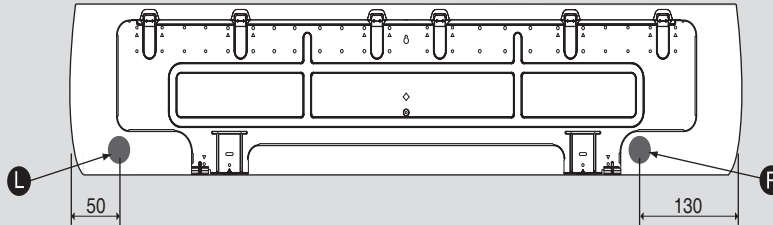

Figure 5
- For this method of installation, make a 65mm diameter hole in the wall at either point L or R. (Figure. 5)